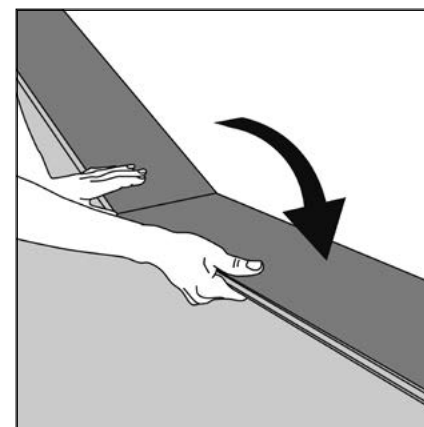

Figure 2 Second plank, first row
- ▶ Press the short end of the next plank/tile at an angle to the first one (Fig 2), and then lay down. Complete the first row in the same way.